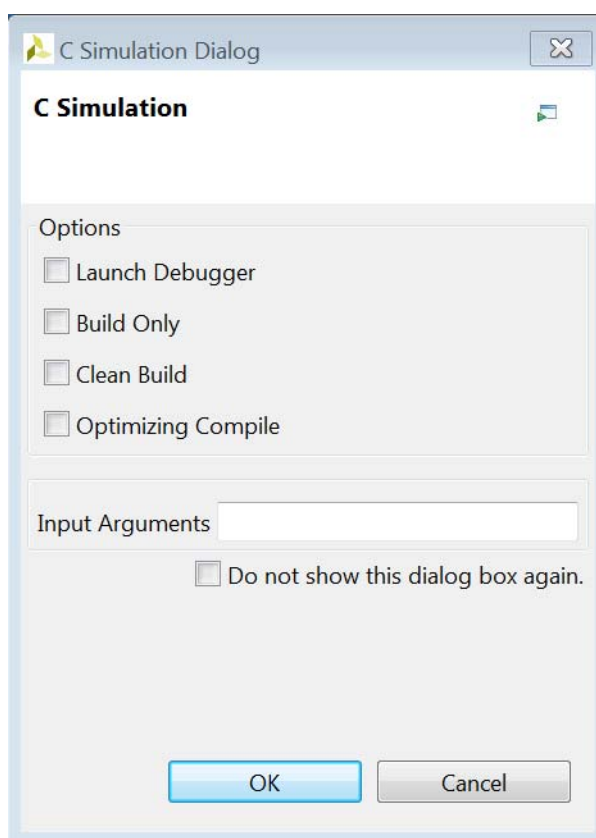

Figure 1-15: C Simulation Dialog Box
**Note:** The **Compiler** option is Linux only and not shown above in Figure 1-15, which displays the Windows dialog box.